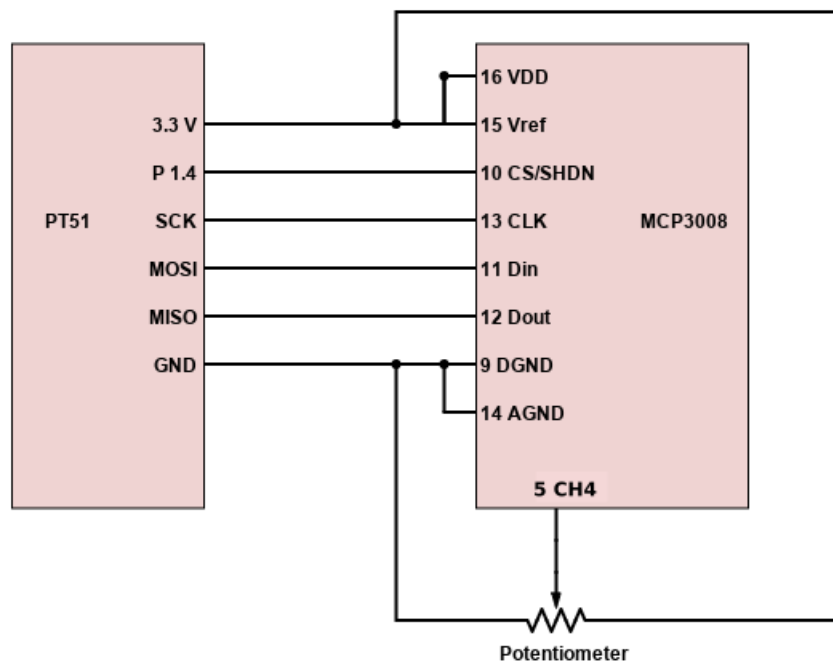

Figure 1: Pt51 interfacing with ADC and potential divider.
- ii) You will next test the ADC setup using a potential divider circuit (series of resistors provided in the kit can be connected between supply and ground terminals) as shown in Fig 1. By varying the point at which the output is taken, voltages ranging from 0 to 3.3 volts can be obtained as output. As shown this output is connected to **CH4** of the ADC. By compiling the project and running the code on the Pt-51 kit, the measured output voltage will be displayed on the LCD in the format shown.